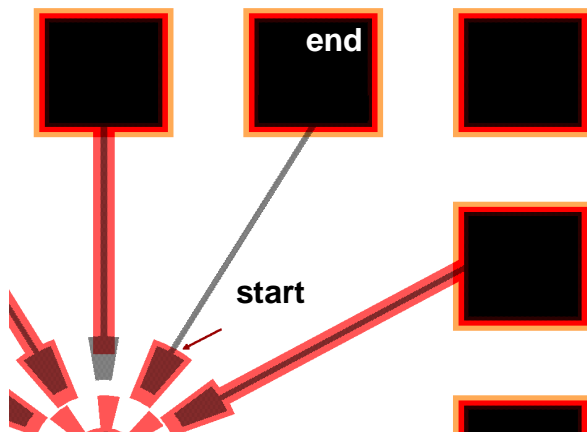

Figure 32: Wiring the pad to the stator
- ☑ Select **View > Zoom > Mouse** so that the pad and torus are visible as in Figure 32. Left-click at one box corner, hold the button down as you drag to the opposite box corner, and release.